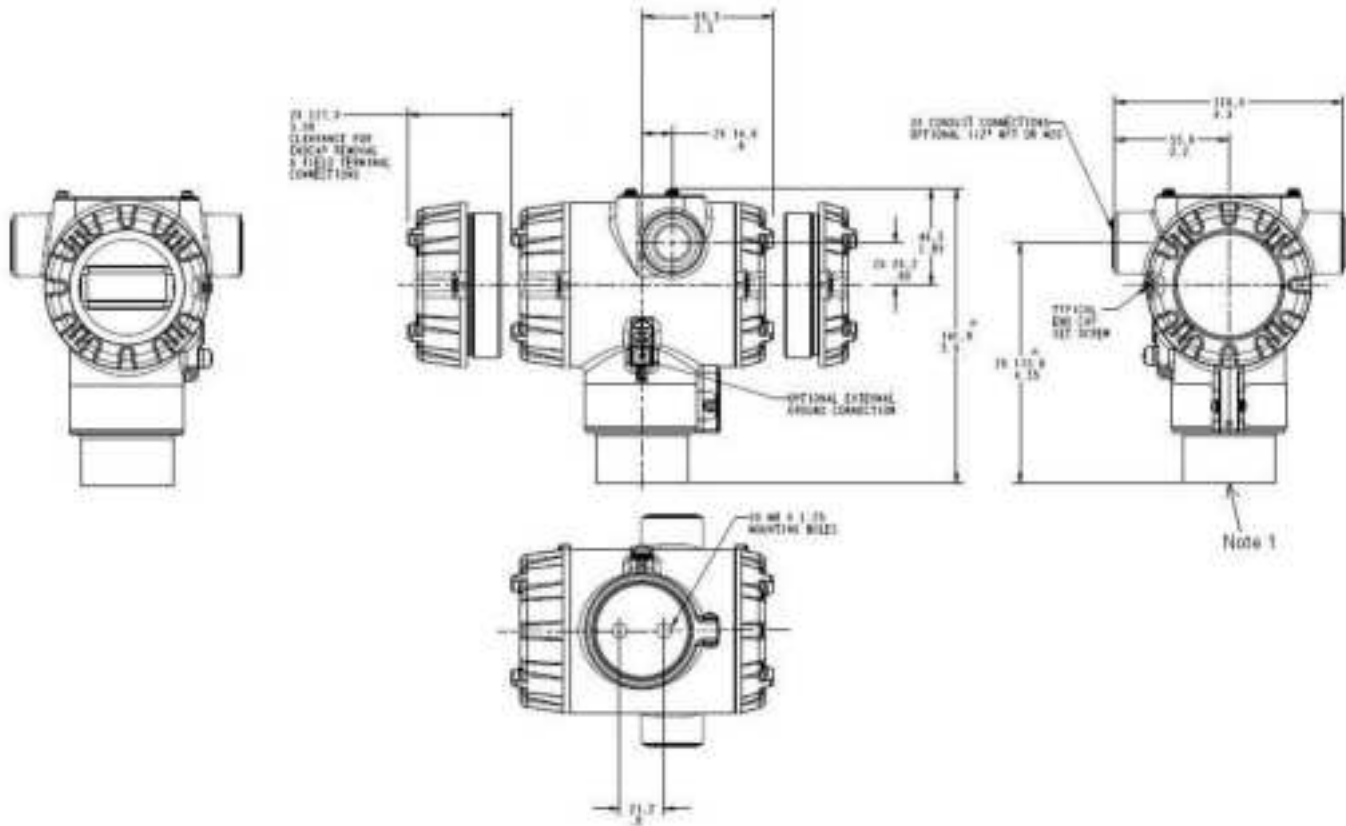
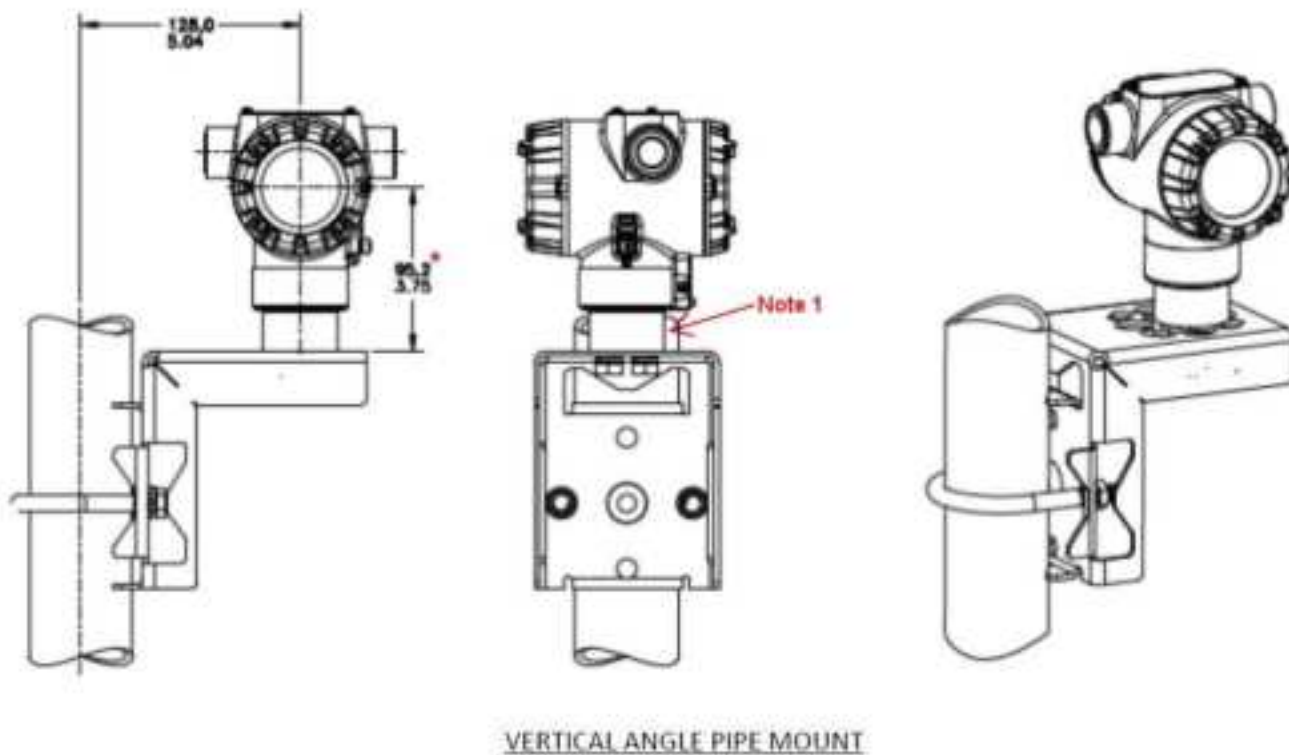

Figure 2 – RMA Dimensions
Figure 5 - Pipe Mount, Vertical
Dimensions	See Figure 2 , Figure 3 , Figure 4 and Figure 5
***Note 1:** Figure 5. Housing adapter may not be present on all transmitter models. If the housing adapter is not present, subtract 24,5mm (0,96 inches) from the dimension specified.